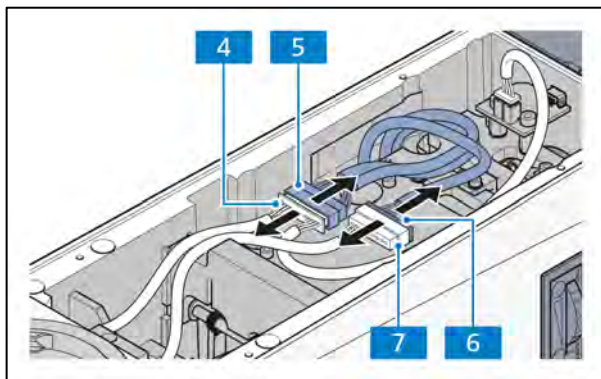

Fig. 3-54 Disconnecting the cable connections
- Disconnect the cable connection between the main control board (Fig. 3-54/6) of the lower stand part and the nosepiece sensor of the upper stand part (Fig. 3-54/7).
- Disconnect also the cable connection between the main control board (Fig. 3-54/5) and the turret sensor/RL LED interface (Fig. 3-54/4).